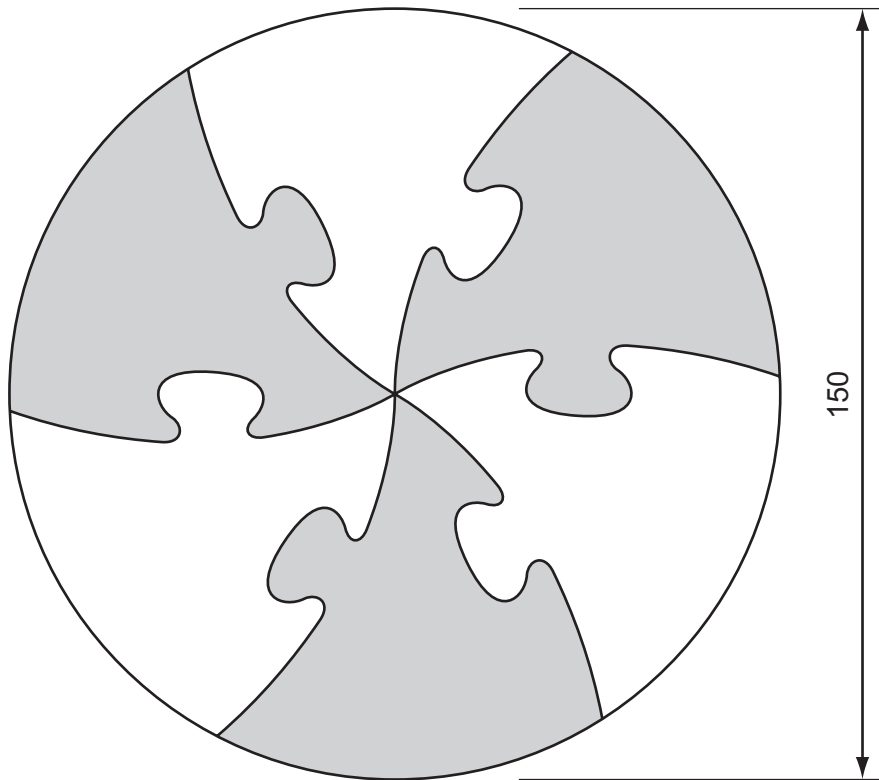

Fig. 7
- 13 Fig. 7 shows an idea for a puzzle that is made up of six interlocking pieces that join together to form a disc.